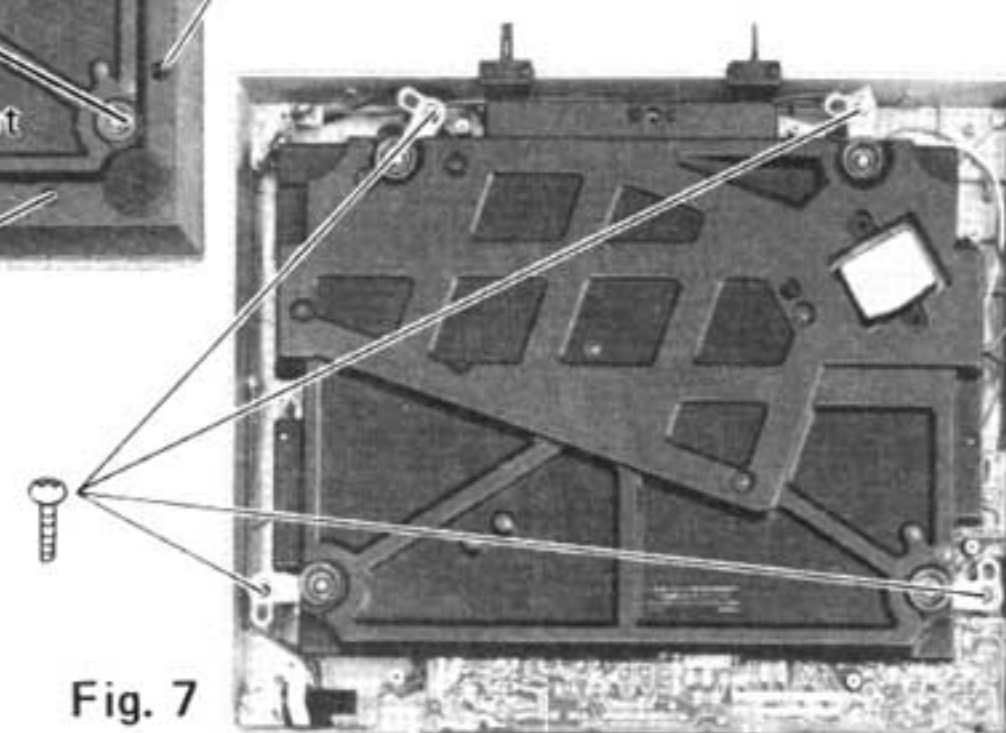

Fig. 7
7. Remove the 4 screws from main base (Fig. 7).